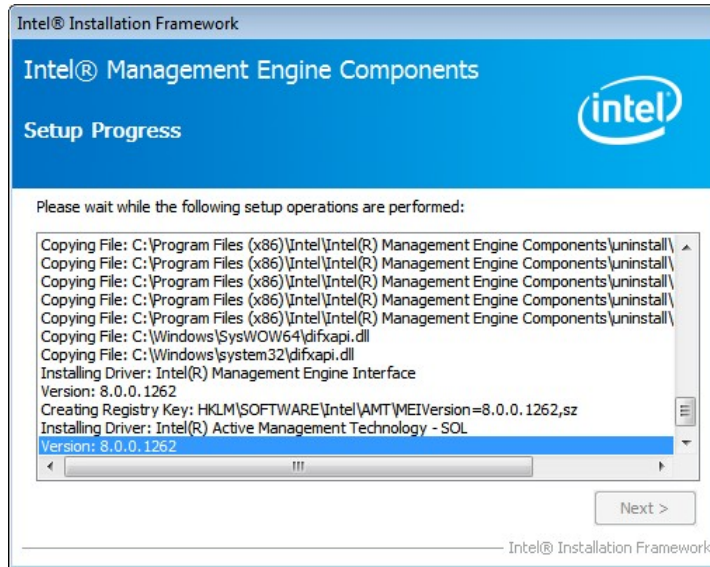

Figure 6-29: Intel® ME Driver Setup Operations
Step 9: **Setup Operations** are performed as shown in **Figure 6-29**.